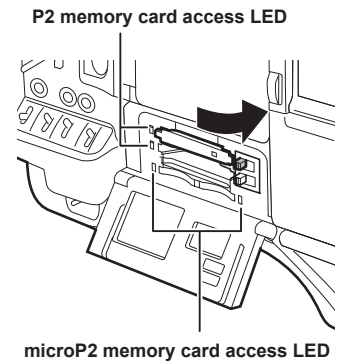

Fig. 3
- After a card is inserted, the P2 card access LED for the appropriate slot indicates the status of the P2 card. (Fig. 3) (page 32)